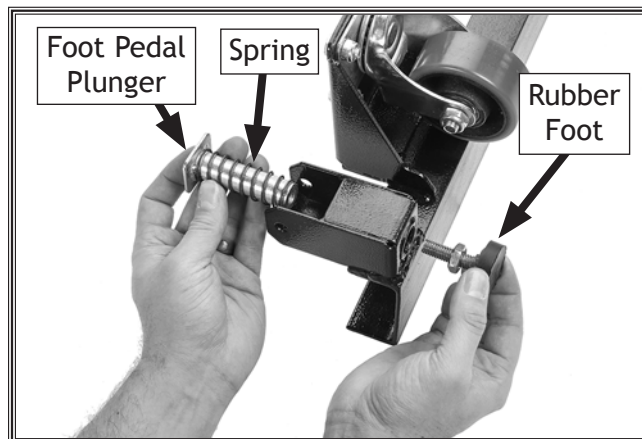

Figure 6. Installing foot pedal plunger, spring, and rubber foot.
6. Install foot pedal plunger and foot pedal spring into each side of support bracket (see Figure 6), and attach a rubber foot with M10-1.5 hex nut to the bottom of each foot pedal plunger.